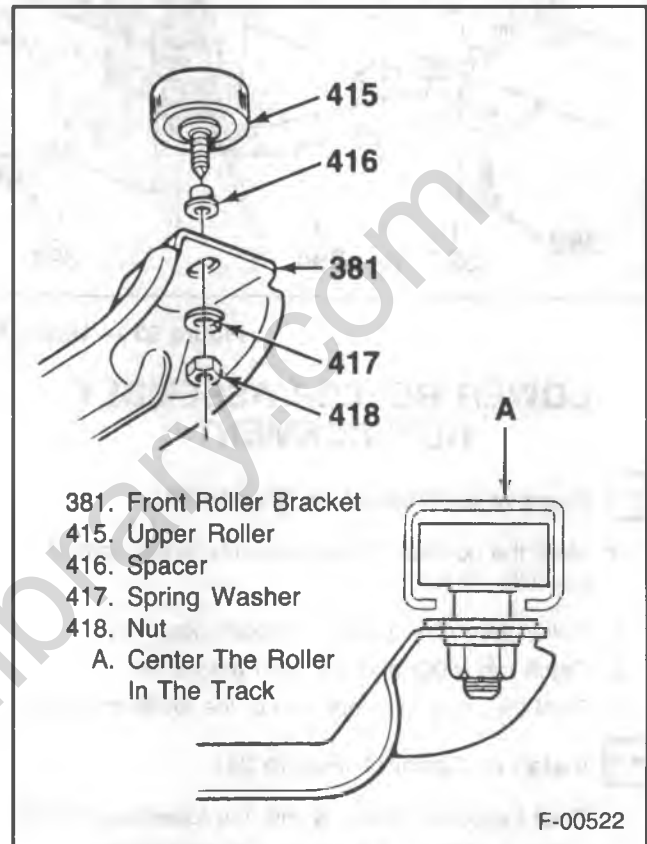
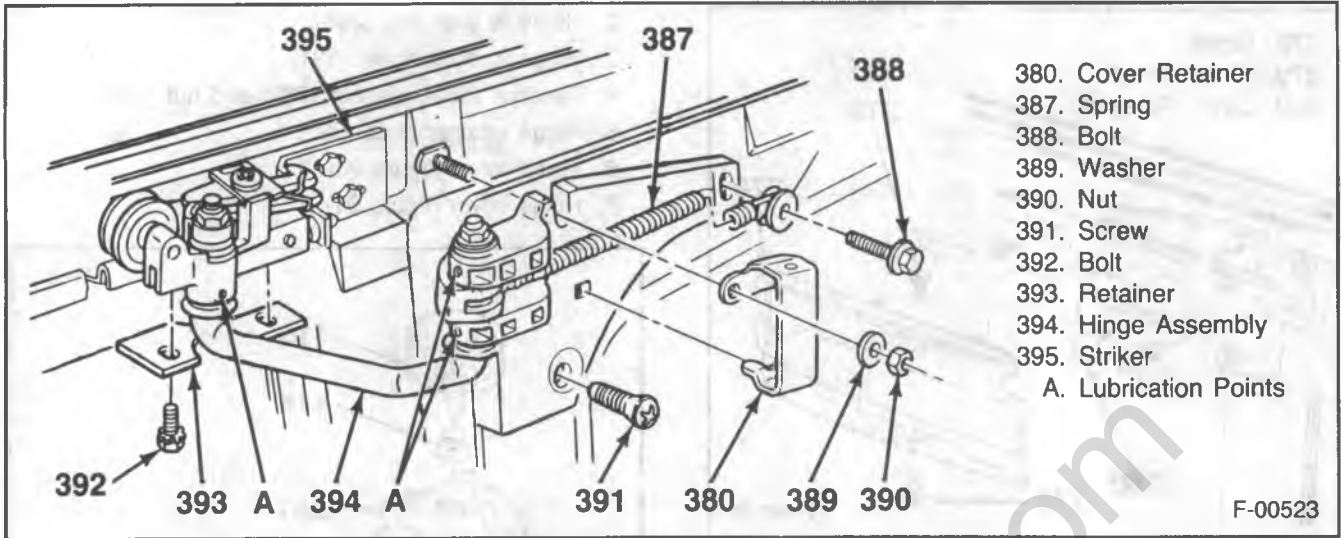

Figure 92 — Upper Front Roller Components
Figure 93 — Upper Rear Hinge Components
↔ Remove or Disconnect (Figure 93)
↔ Install or Connect (Figure 93)
↔ Remove or Disconnect (Figure 92)
↔ Install or Connect (Figure 92)
1. The rear edge of the door to obtain a gap of 4.5 mm \pm 0.5 mm (0.18-inch \pm 0.02-inch) between the top of the door and the roof side rail. This adjustment should provide a gap of 6 mm \pm 0.5 mm (0.25-inch \pm 0.02-inch) between the bottom of the door and the rocker panel. To accomplish this adjustment, loosen the upper rear hinge to door bolts (figure 92), and align the rear edge of the door up or down. Next, tighten the upper rear hinge to door bolts (figure 93).
4. Loosen the upper rear hinge striker (figure 93).
6. Tighten the upper rear hinge striker (figure 93).